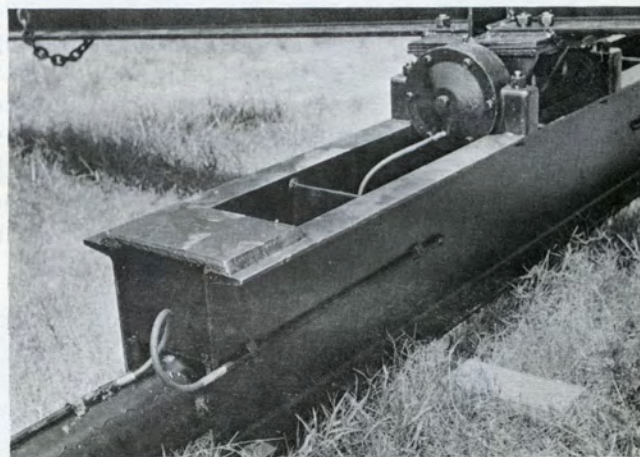

Figure 17
13. Figure 17 - Cross Yoke Bearing Lubrication Hoses